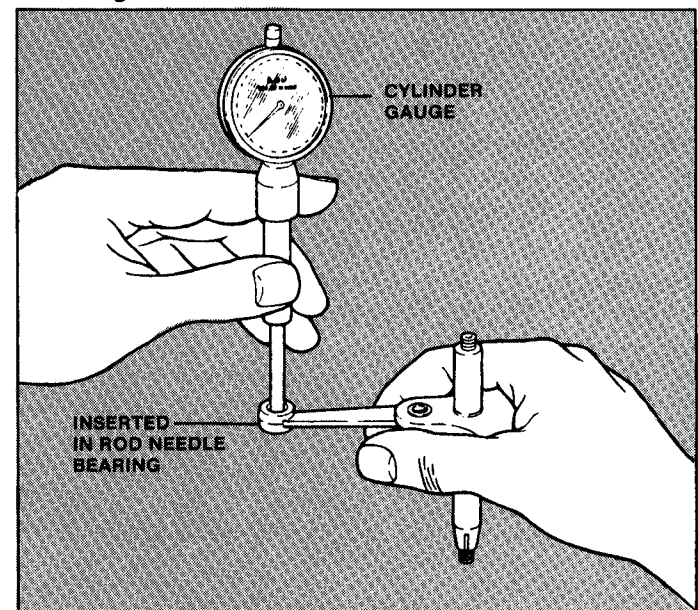

FIGURE 2.7
1. Using cylinder gauge, measure inside diameter of connecting rod needle bearing as shown in Figure 2.7.